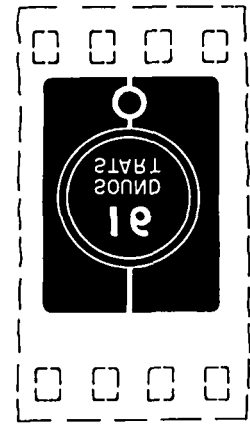

Fig. 2 16-mm Sound Start Identification Frame
- Frame 1—The 16-mm sound start indication, printed in clear letters on a black background as shown in Fig. 2.